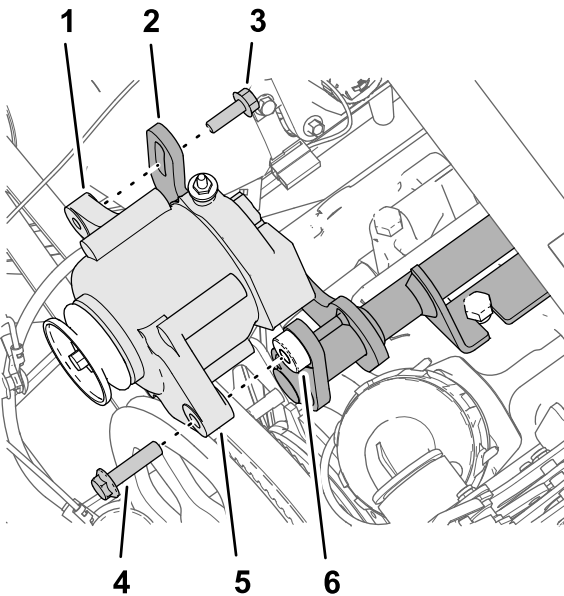

Figure 181
1. Assemble the alternator (60 A) to the threaded boss of the alternator-bracket (Figure 181) with the flange-head bolt (3/8 x 1-1/2 inches).
(Figure 181) with the flange-head bolt (8 x 25 mm).